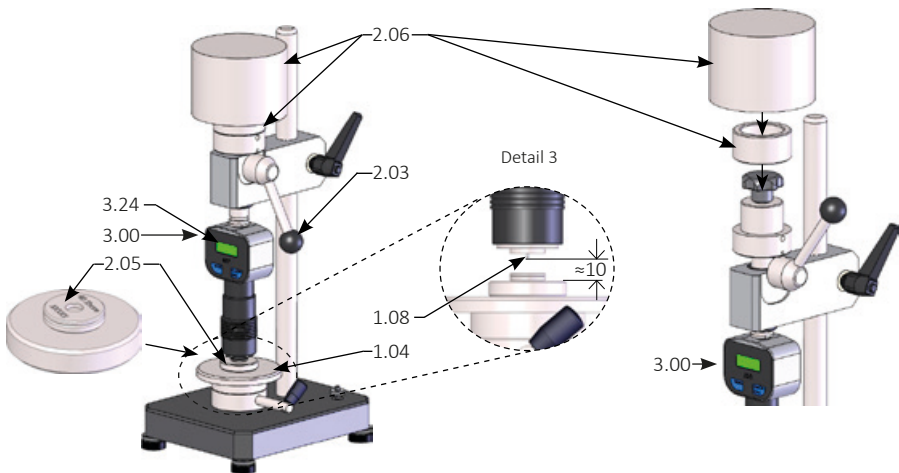

Fig. 5 Alignment of the specimen table Shore D, C, D0
The crash of the hardness tester on the specimen table may cause damage to the indenter (1.08, Fig. 5).
- › Slowly move down the hardness tester (3.00) until the tip of its indenter is approx. 10 mm above the center hole of the Control Ring (see Detail 3, Fig.5).
Place the Control Ring 40 Shore with its base plate (2.05, Fig.5) on the specimen table. Position the indenter of the hardness tester about 10 mm directly above the center hole of the Control Ring.